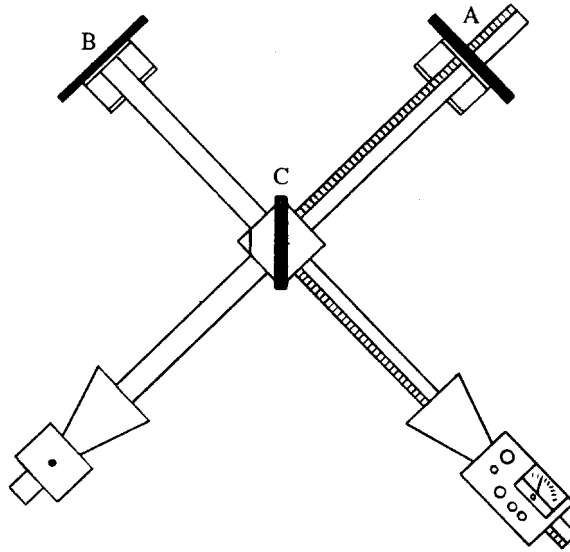

Figure 14: Michelson Interferometer
Like the Fabry-Perot interferometer, the Michelson interferometer splits a single wave, then brings the constituent waves back together so that they superpose, forming an interference pattern. Figure 14 shows the setup for the Michelson interferometer. A et B are reflectors and C is a partial reflector. Microwaves travel from the Transmitter to the Receiver over two different paths. In one path, the wave passes directly through C, is reflected back to C from A, and then is reflected from C into the Receiver. In the other path, the wave is reflected from C into B, and then back through C into the Receiver.
1. Arrange the equipment as shown in figure 14. Plug in the Transmitter and adjust the Receiver for an easily readable signal.